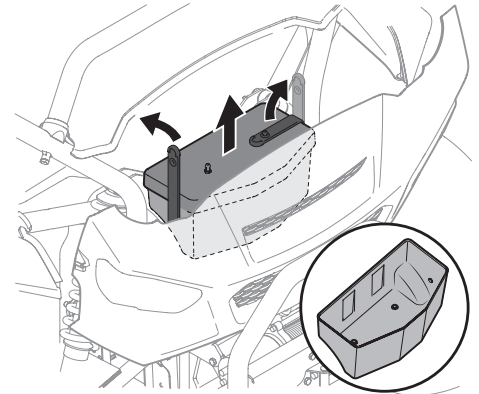

Figure 3-14
2. Unhook the two rubber straps holding the top cover on and remove the top cover. See Figure 3-14.